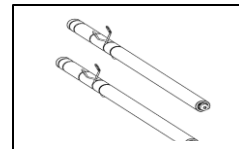

Figure 9
13. **AUTOGRIP SHAFTS:** The Catena 35/65 use two autogrip shafts (figure 9) to hold laminating film.